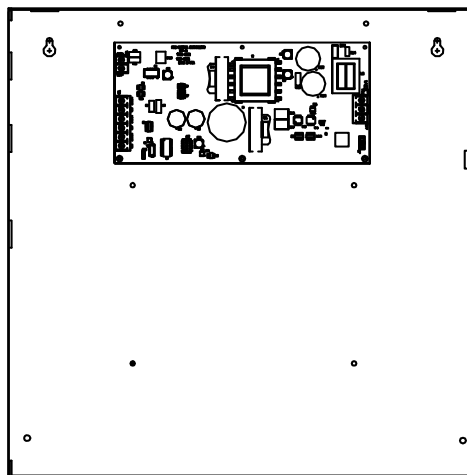

Figure 2.7.1.1 PM-9/PM-9G Sub-Assembly
2. Align the sub-assembly with the six (6), mounting standoffs located at the top of the INX or the INX CAB-B backbox as shown in Figure 2.7.1.1.
3. To secure the sub-assembly, use the six (6), screws provided.